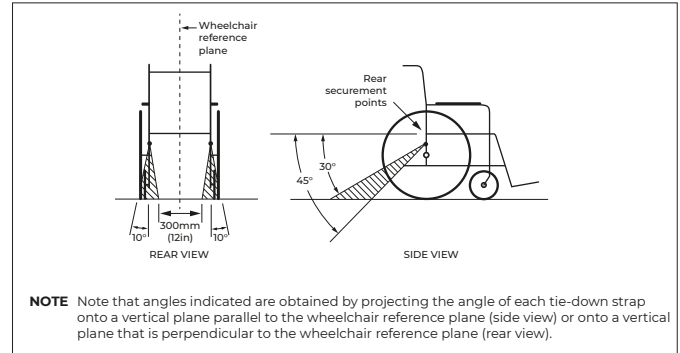

Figure 9
4. Ensure that the webbing of each tie-down is approximately the same length, and at an angle of around 30 to 45°, (Fig. 9).